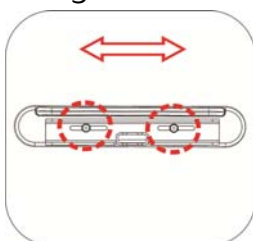

Figure 5-61
5.3.4.2.11 When adjusting the armrest pad forwards or backwards, use the #3 Allen Key Wrench to loosen the screw used to fixing the armrest pad. The total range of adjustment is 5cm ,in increments of 2.5 cm. (Figure 5-61)